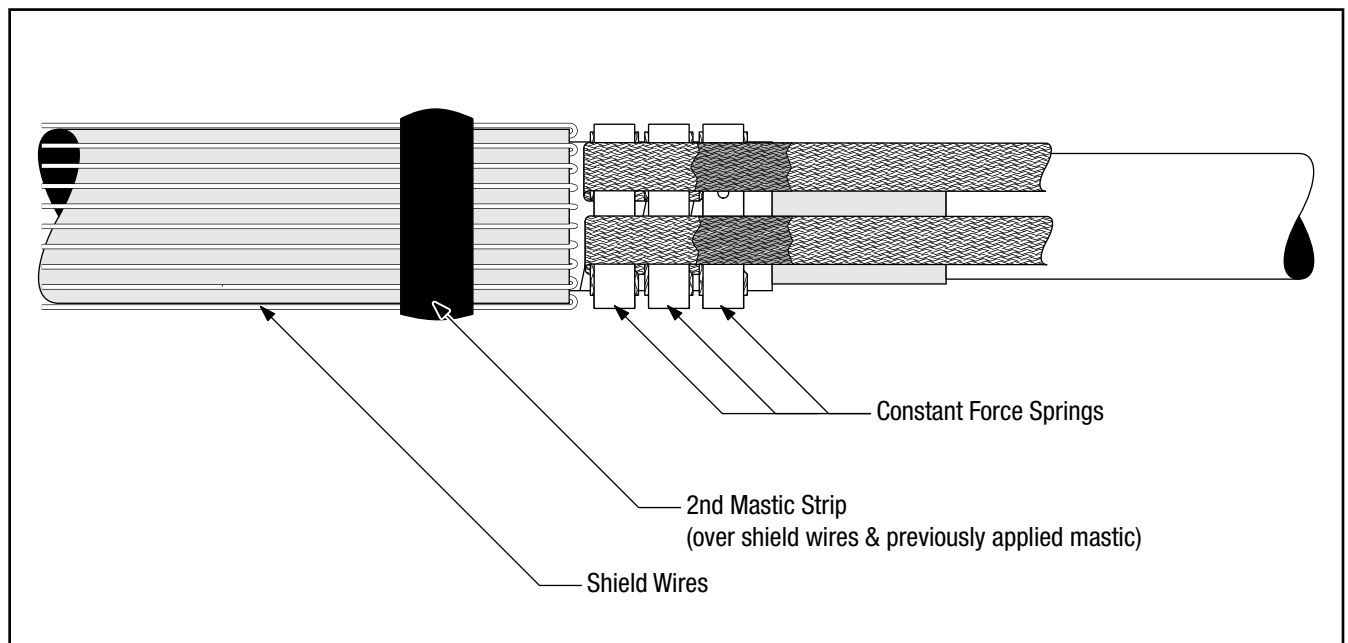

Figure 15
- 4.4 Select the roll of 1" (25 mm) wide 3M™ Scotch-Seal™ Mastic 2229 from the kit. Cut a length of mastic long enough to wrap over the shield wires and previously applied mastic. Fold the ground braid tails out of the way. Remove the release liner from the mastic and, using light tension, apply a single wrap of mastic around the cable jacket, positioned over the shield wires and previously applied mastic. (Figure 15)